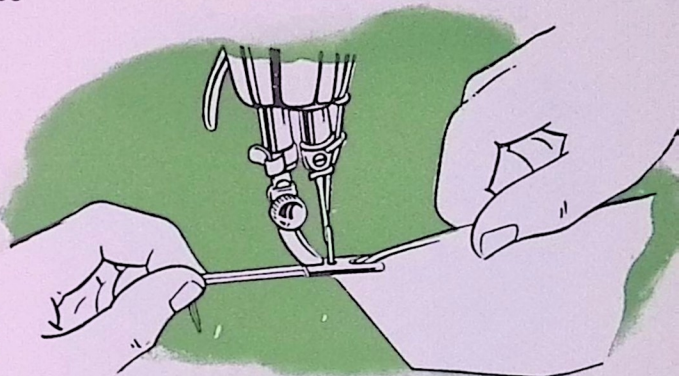

Fig. 36. Starting Hem at Very End of Material
3. Raise hemmer. Pull threads and hem slightly from you with left hand, then while holding threads, draw material toward you with right hand into scroll of hemmer until tacked end is caught in hemmer, as shown in **Fig. 36**.